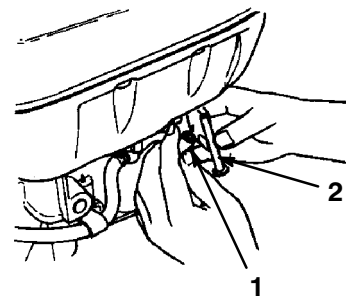

Figure 26
6. Remove the fuel tube on the fuel tank by loosening the tube clamp (Fig. 26).
7. Remove the fuel filter from the fuel tank (Fig. 26).